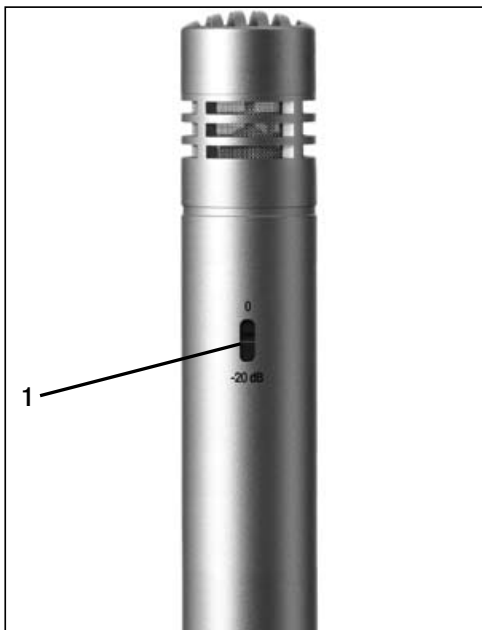

Fig. 1: Preattenuation switch (1) on PERCEPTION 170 rear.
- **Switchable preattenuation pad:** The preattenuation switch (1) on the microphone rear (refer to fig. 1) lets you increase the headroom by 20 dB for distortion-free close-in recording. The preattenuation pad prevents the microphone's output level, particularly at low frequencies, from overloading the miniature transformers used in many mixer input stages, etc.